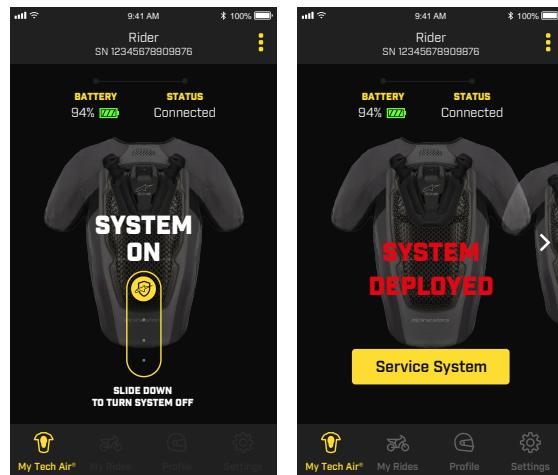

Figure 12
The App provides information about the actual operating mode of the System, verifying if the System is functioning correctly or not. The indication "System On" displayed on the screen indicates that the System Check has been successfully passed and that the System is active. While riding "System On" mode is active and, accordingly, for safety reasons, the user cannot access most of the App functions. In case the System needs to be disabled by the user, such as during a heavy off-road riding session, the System can be turned off using the slide icon on the App (as shown in Figure 12). To reactivated open and close the Front Flap (2).
From the App the user can also verify the actual deployment of the System during an accident as the deployment of the System is shown on the App (see Figure 12 wherein the System status is shown).